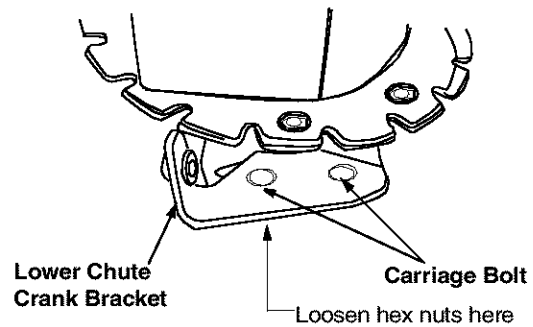

Figure 5
- You may have to loosen the carriage bolts and hex lock nuts which secure the lower chute crank bracket to the extension on the left side of the chute assembly. See Figure 5.
- Place the right turn trigger in position underneath the right handle. Insert screw, from group G of the hardware pack, into the hole on the handle and the weld nut molded on the turn trigger assembly. See Figure 5. Tighten screw with a Philips screw driver. Repeat on the left side.